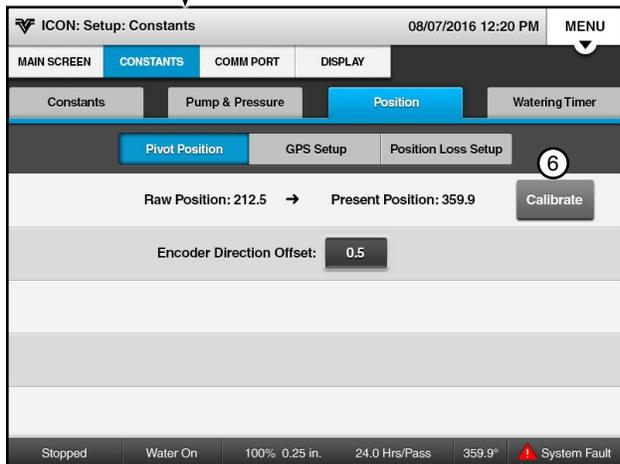

Figure 40-2
- (d) Push the **Calibrate** button and enter the pivot position in degrees on the numeric keypad. See Figure 40-2.